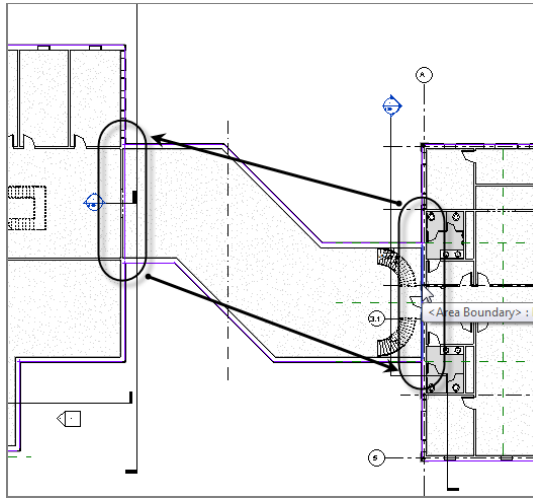

FIGURE 15.26: Separating the areas
- 6. Draw a line, as shown in Figure 15.26, separating the corridor from the east wing.